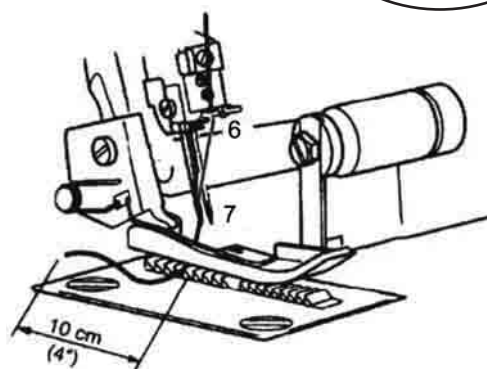

Fig. 33
5. Thread the yarn through the left needle (7) (Fig. 33).
6. Lay the yarn to the rear under the sewing foot ②.